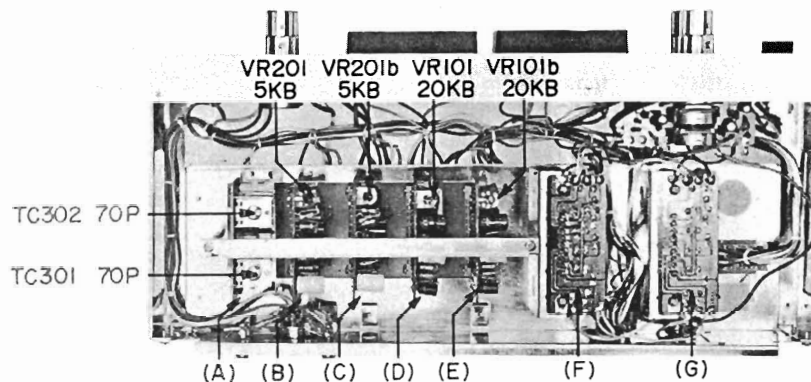

Fig. 16
- 4) Adjust the Playback Amp. P.C. Board playback level adjustment semi-fixed resistor VR101 50 k Ω (left ch.) and VR101b 50 k Ω (right ch.) shown in Fig. 16 so that the High Sensitivity V.T.V.M. indication is 4 dB (1.228V).
- 5) Set the Monitor Switch to SOURCE position and adjust Recording Amp. P.C. Board recording level adjustment semi-fixed resistors VR201 5 k Ω (left ch.) and VR201b 5 k Ω (right ch.) shown in Fig. 16 to obtain a Line output level of 4 dB.
- 3) Under these conditions, adjust OSC. P.C. Board frequency response adjustment trimmer capacitors TC301 70P (left ch.) and TC302 70P (right ch.) shown in Fig. 16 to obtain an equally flat frequency response at 1,000 Hz and 10,000 Hz.